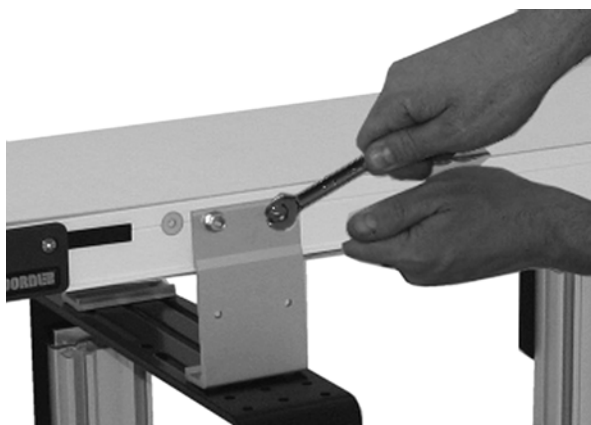

Figure 21
- Hand tighten the screws to secure (Figure 21). Recommended torque is 150 in.lbs (17 Nm).